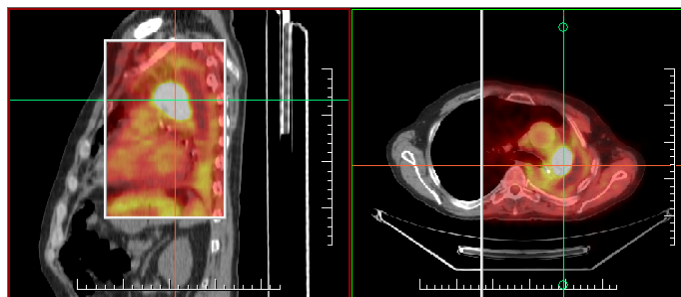

Figure 276 – Fusion images between MR and PET series
- **Vertical** - the view is divided with a vertical line; the image from the fusion series is displayed on the right (see Figure 276, right).
- **Rectangle** - the image from the overlaying series is displayed inside the rectangle (see Figure 276, left).